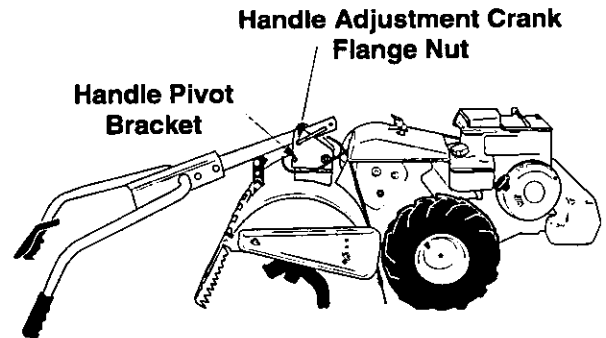

Figure 4
1. Place handle assembly in position in the pivot bracket. See Figure 4.
2. Line up holes in handle with slots in handle pivot bracket. From the right side of the unit, insert handle adjustment crank through handle pivot bracket and handle assembly. See Figure 4. Thread end of handle adjustment crank into the flange nut. Do not tighten at this time.